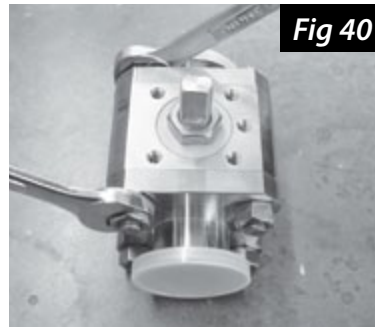
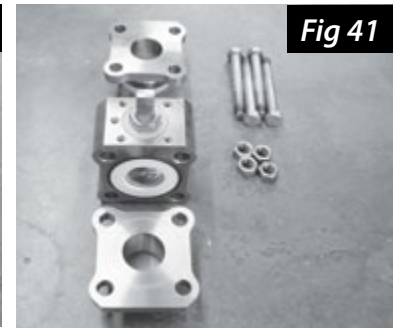

Fig 40
Fig 41
3. Remove the four body bolts using the two wrenches specified below (Fig 40). Remove the end caps and place them in a safe location (Fig 41).